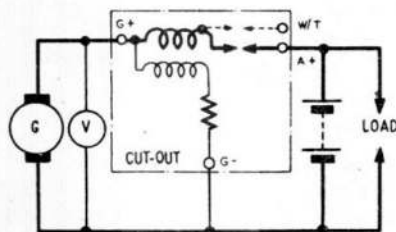

Fig. 1. Simplified representation of cut-out connected in charging circuit
2. In an aircraft electrical installation in which a generator is used to supply the electrical energy during flight, and a battery is carried to provide a supplementary supply, the battery is normally connected to the generator (fig. 1) and is on charge. In the event of the generator voltage becoming less than that of the battery, the circuit must be broken in order to prevent a discharge current from the battery passing through the generator. It is the function of the cut-out to do this automatically.